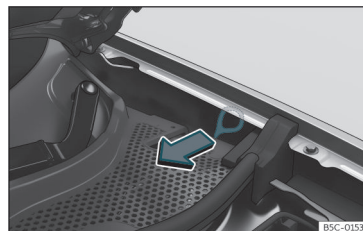

Fig. 194 Between the left wing panel and the engine bonnet hinge: Charging connector manual release mechanism puller.
The puller for the manual release mechanism is at the front left of the vehicle interior, above the charging socket >>> **Fig. 194**.
- Pull the puller >>> **Fig. 194**.